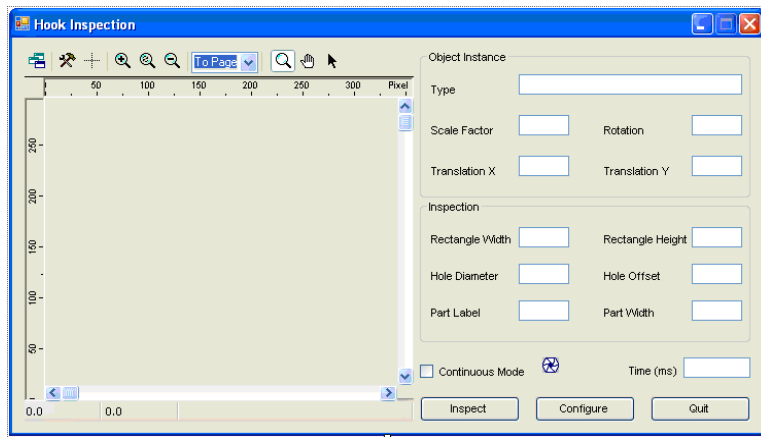

Figure 39 VB .NET Form for Tutorial 6
1. On your application form, add one text box. Name it **PartWidthText** and add an appropriate label. Set up your form as illustrated in Figure 39.